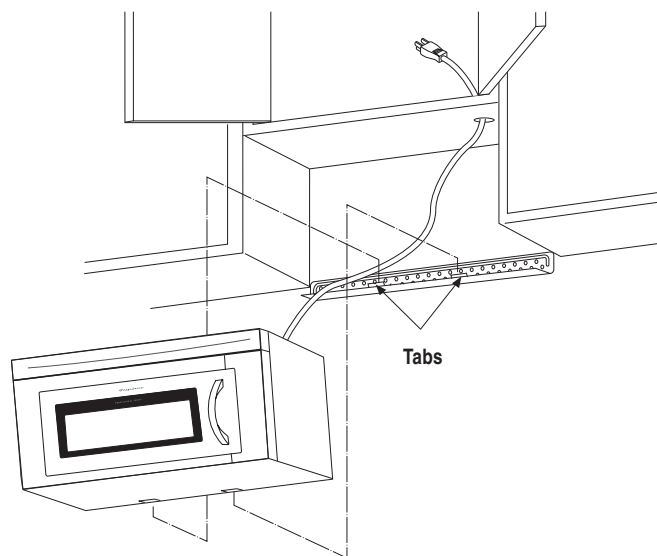

Figure 18
2. Install the oven by tilting it forward and sliding it onto two tabs of the Mounting Plate. Rotate the oven up so it rests against the wall. See Figure 18 on page 7.